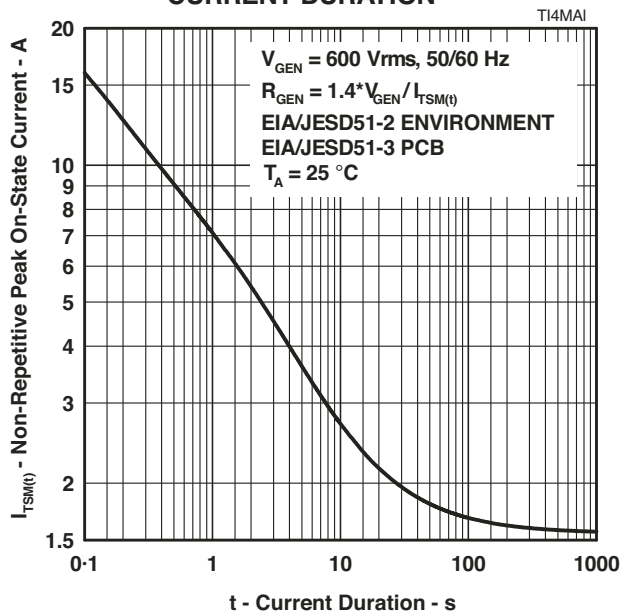

Figure 9.
5. EIA/JESD51-2 environment and EIA/JESD51-3 PCB with standard footprint dimensions connected with 5 A rated printed wiring track widths. See Figure 9 for the current ratings at other durations. Derate current values at $-0.61\%/\text{C}$ for ambient temperatures above 25°C .
The protector can withstand currents applied for times not exceeding those shown in Figure 9. Currents that exceed these times must be terminated or reduced to avoid protector failure. Fuses, PTC (Positive Temperature Coefficient) thermistors and fusible resistors are over-current protection devices which can be used to reduce the current flow. Protective fuses may range from a few hundred milliamperes to one ampere. In some cases, it may be necessary to add some extra series resistance to prevent the fuse opening during impulse testing. The current versus time characteristic of the overcurrent protector must be below the line shown in Figure 9. In some cases, there may be a further time limit imposed by the test standard (e.g. UL 1459 wiring simulator failure).